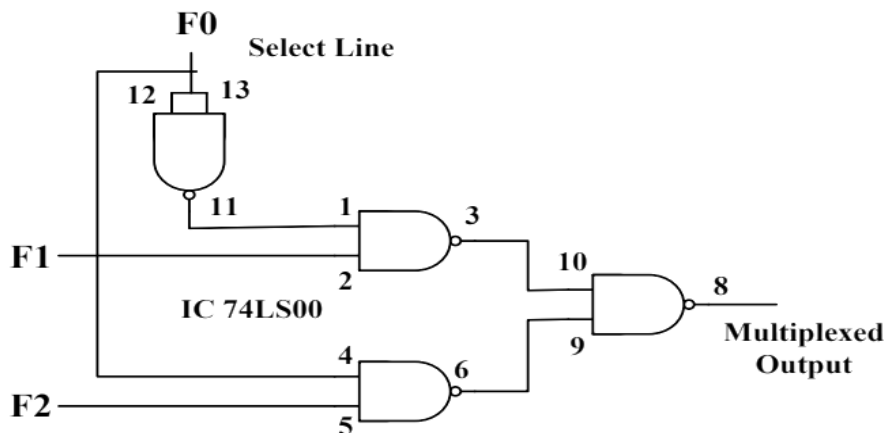

Figure 2 - Multiplexer Circuit
- Connect outputs of the Astable Multivibrators (F1, F2) to the multiplexer circuit (obtained using NAND gates) shown in the figure 2.